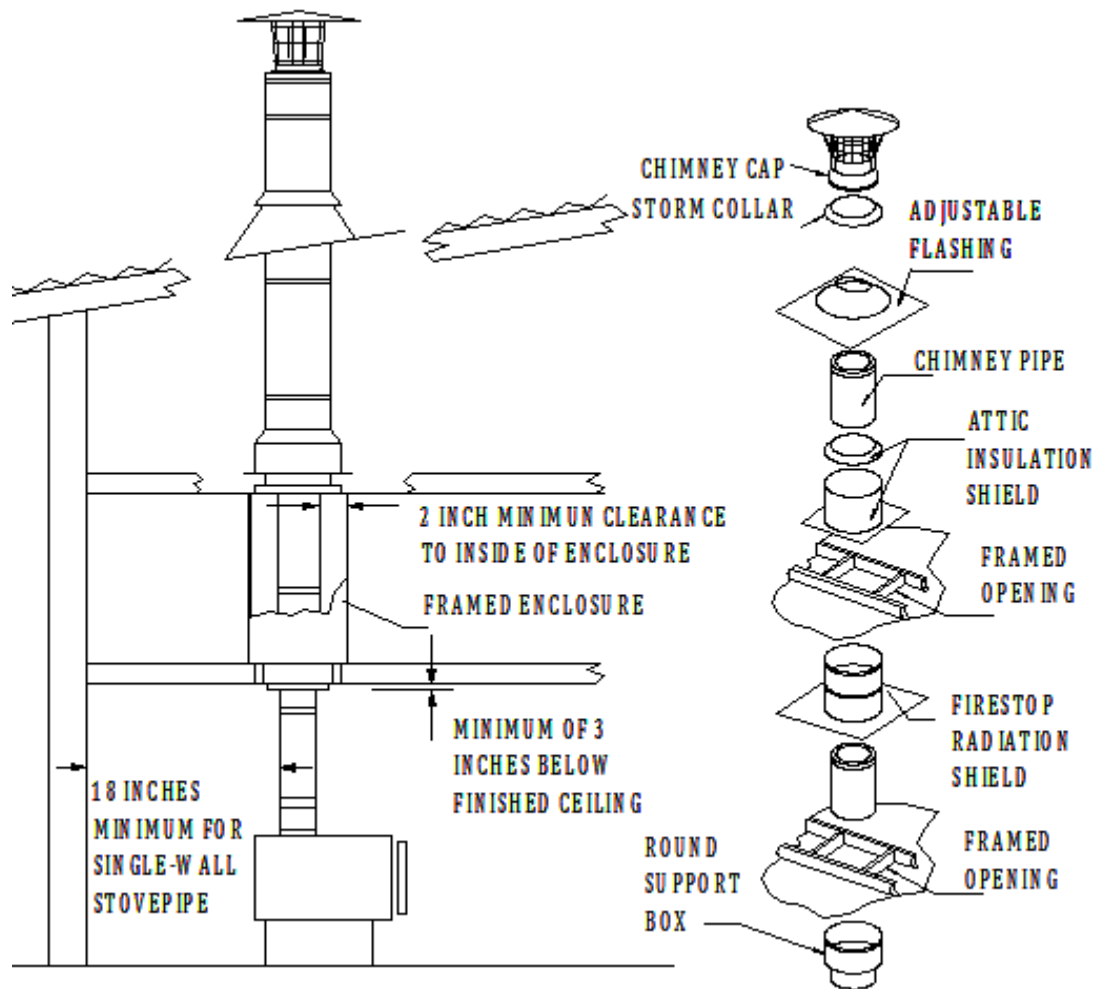
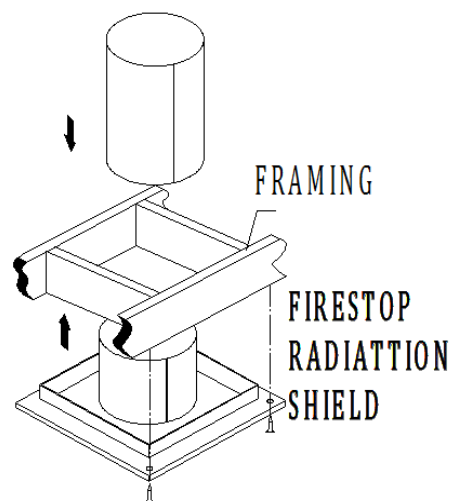

Fig.7
Fig.8
**4. Frame Openings:** Frame openings in each ceiling or floor above the Support Box (Fig 7). These openings are to hold the Radiation Shield and Attic Shield. Locate each opening by dropping a plumb bob to the four corners of the opening below. Maintain the minimum clearances and dimensions as specified in Table 1. If Elbows must be used to avoid an obstruction, refer to the Offset Elbow Installation section.
**6. Install Radiation Shield:** A Radiation Shield is required in multistory installations at each floor penetration above that where the Support Box is located **when the attic insulation shield is to be enclosed**. Example: in a multistory home where the appliance is on the ground floor (Support Box is in the 1st floor ceiling), you would need a Radiation Shield at the 2nd floor ceiling, and at the 3rd floor ceiling, etc., including where the chimney penetrates into the attic. Figure 7 shows a typical 2-story installation with an attic. Note: a Radiation Shield is not installed where the chimney penetrates through the roof. The Radiation Shield is installed on the underside of the ceiling/floor framing, with the cylindrical "tube" portion of the shield pointing upward (Fig 8). Use a minimum of either (1) 8 penny nail or (1) #8, 1-1/2" wood screws per corner. Refer to Table 1 for framing requirements.
- d. Slip the Attic Insulation Shield over the Chimney and Radiation Shield until the base sits squarely on the framed opening (Fig 7 & 10).